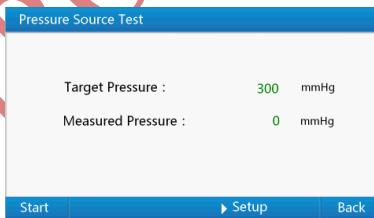

Figure 14 Pressure source test interface
- 1) Use up or down key in "Pressure Test Menu" to select "Pressure Source", then press "Enter Key" to "Pressure Source Test" interface shown as Figure 14. Pressing "Return Key" in this interface can get back to "Pressure Test Menu". As a shortcut, you can use the number key "3" to "Pressure Gauge Test" interface firstly, then press "Enter Key" to the "Pressure Source Test" interface.